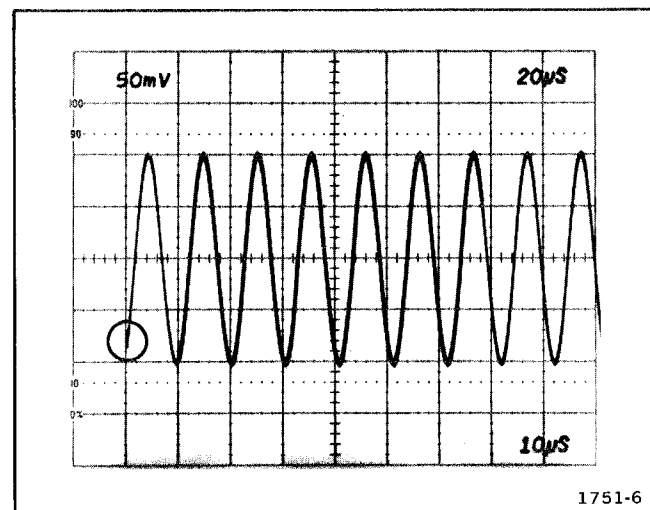

Fig. 5-10. Trigger sensitivity. (Circle denotes correct trigger point.)
a. Adjust—Trig Sens, R125, for a sweep trigger point at approximately 0.5 division from bottom of waveform as MAIN TRIGGERING LEVEL control is rotated through negative (−) portion of its range. See Fig. 5-10 for reference.
a. Adjust—Trig Sens, R325, for a Delayed sweep trigger point at approximately 0.5 division from bottom of waveform as Delayed Triggering LEVEL control is rotated through negative (–) portion of its range. See Fig. 5-10 for reference.